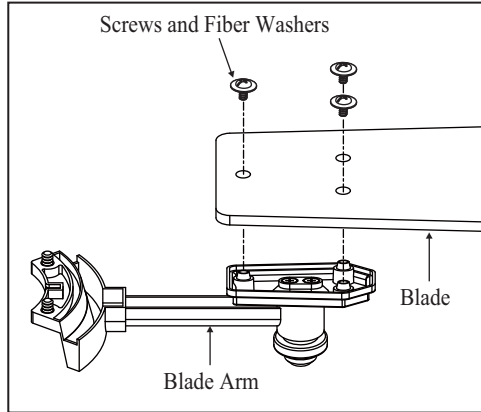

Figure 12
1. Attach blades to blade arms using three screws with fiber washers (Fig. 12). Start a screw into the blade arm, do not tighten. Repeat for the 2 remaining screws and washers.